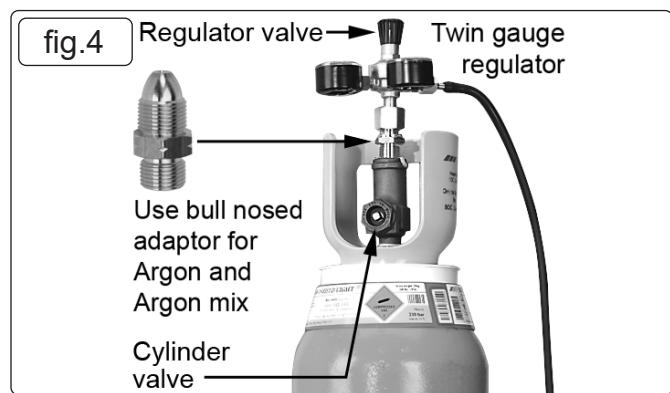

fig.4
4.6. **ATTACHING THE REGULATOR** (Refer to fig.4)
4.8.1. Cylinders containing Argon gas and Argon mixtures have a female thread and will require the use of a Bull Nose Adaptor to attach the regulator to the cylinder as indicated in fig.4. Ensure that the threads on the gas bottle are undamaged and free of oil and grease before attaching the regulator. (Oil or grease in the presence of high pressure gases is explosive.) Fit the Bull Nose Adaptor to the cylinder first and tighten with a spanner. Ensure that the regulator has an undamaged gasket before fitting onto the Bull Nose Adaptor. Tighten with a spanner.